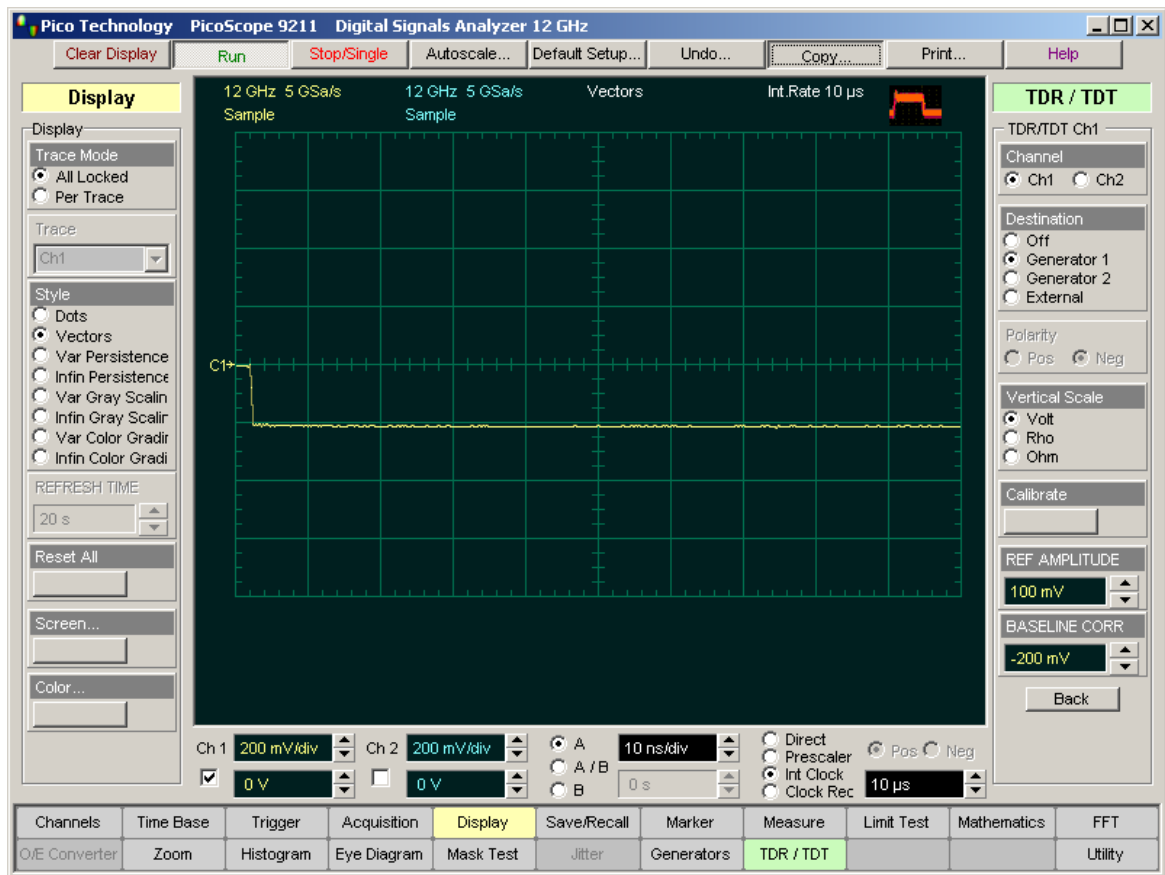

Figure 3
9. Connect the 50-ohm termination to the Reference Plane. See Figure 3. Notice that there is no reflection from the Reference Plane.